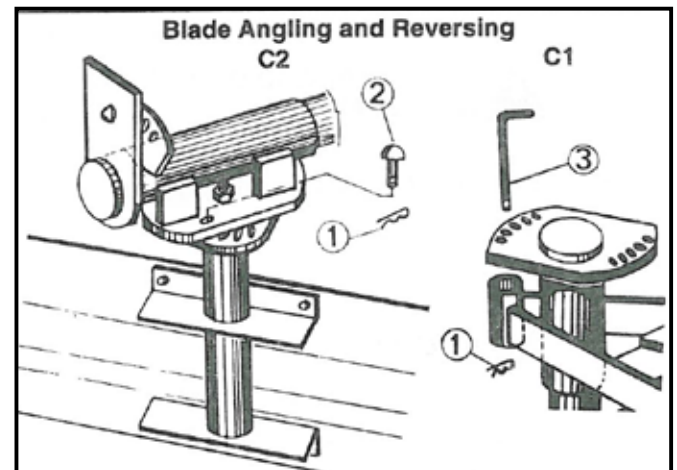

FIGURE 2
The blade may be angled 360 and can be held at 0, 30, or 45 to left or right for forward grading and 0 or 15 to left or right for back filling without unhooking from the tractor. To angle blade, raise it a few inches above the ground by operating the lift control lever of the tractor. Remove the lift control lever of the tractor. Remove the bridge pin (1) and index pin (2). (Figure 2)
The blade is reversible without removing from tractor. To reverse the blade, raise it off the ground, remove the spring pin (1) and index pin (2). Swing the blade to desired position and replace pins. (Figure 2) **NOTE: 1. Drawbar may have to be removed on some tractors. 2. In some cases it may be necessary to remove the blade from the tractor.**